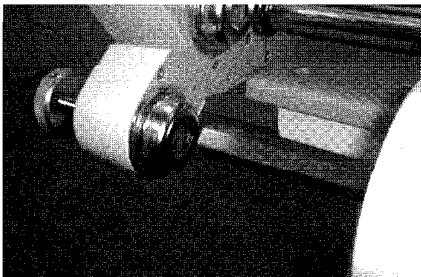

Figure 8
8. Return the film shafts onto the unit by first inserting hex end of the film shaft into the left hand side of the machine and then inserting the round end into the receptacle on the left side of the machine. Figure 8